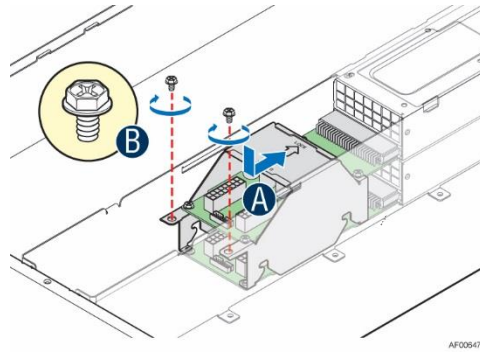

Figure 57. Installing the power distribution module
1. Slide in the power distribution module (A) and fix the module with the two screws (B) as pictured in Figure 57.